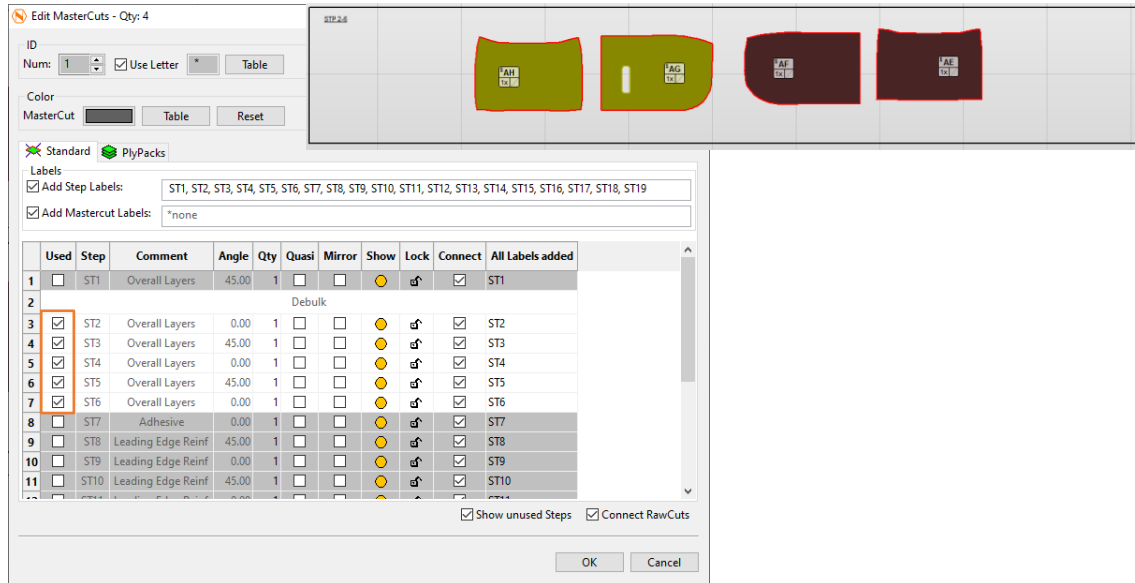

Figure 278
74. And finally, also for our MasterCuts assigned to STP 2-6 (Figure 278).